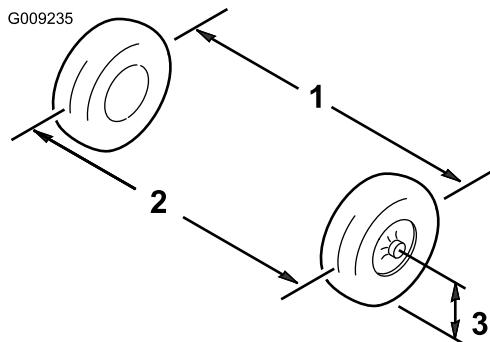

Figure 43
6. Measure the distance between both of the front tires at the axle height at both the front and rear of the front tires (Figure 43).